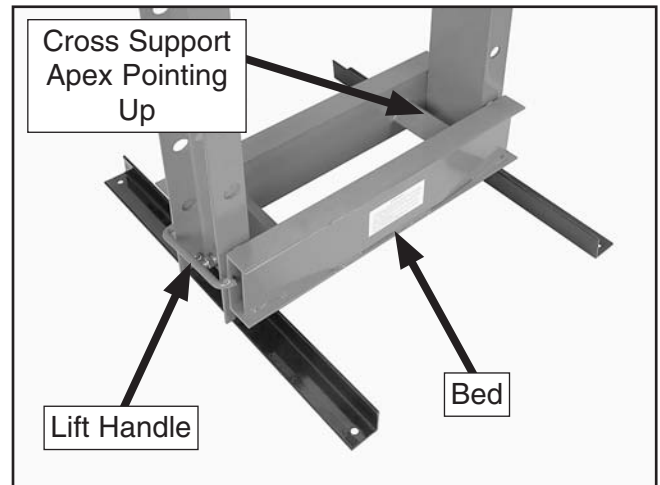

Figure 6. Bed installation.
5. With the help of your assistant, hold the bed handles, lift and lower the bed onto the U-beams and lower the bed all the way to the base, as shown in **Figure 6**. Make sure that the apex of the bed cross-supports point upward, as shown in **Figure 6**.